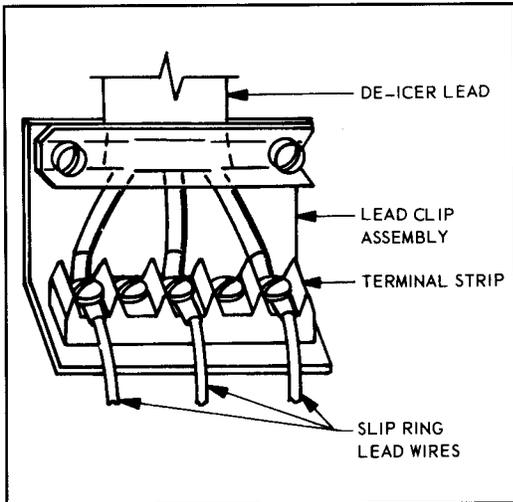
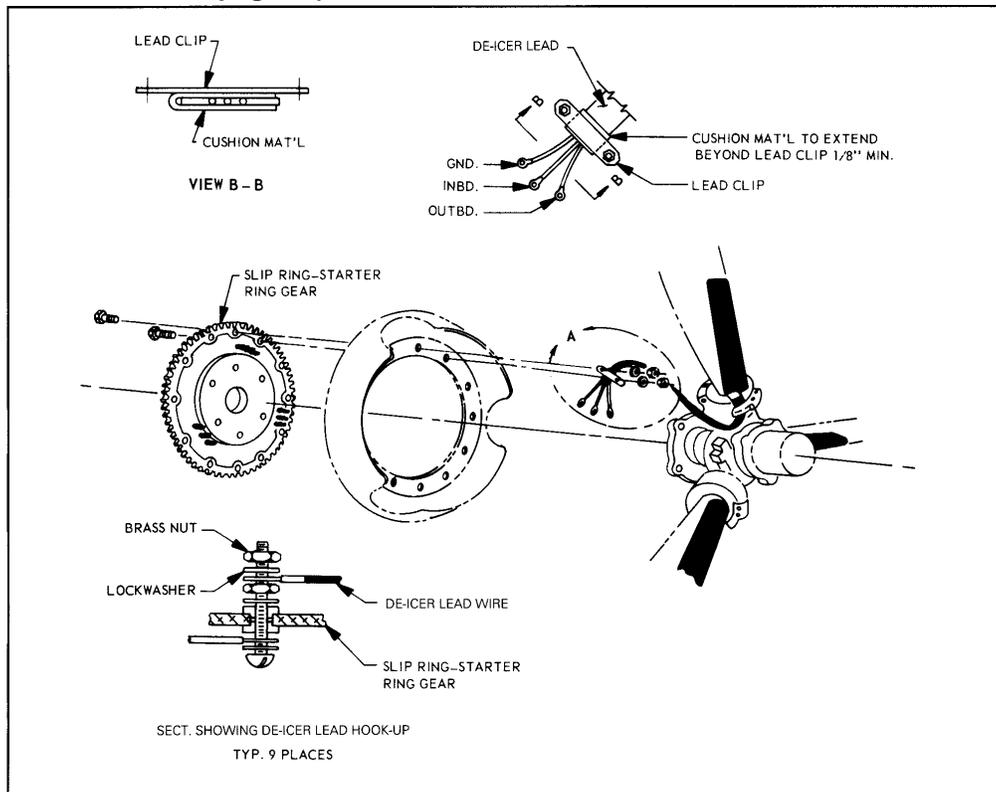
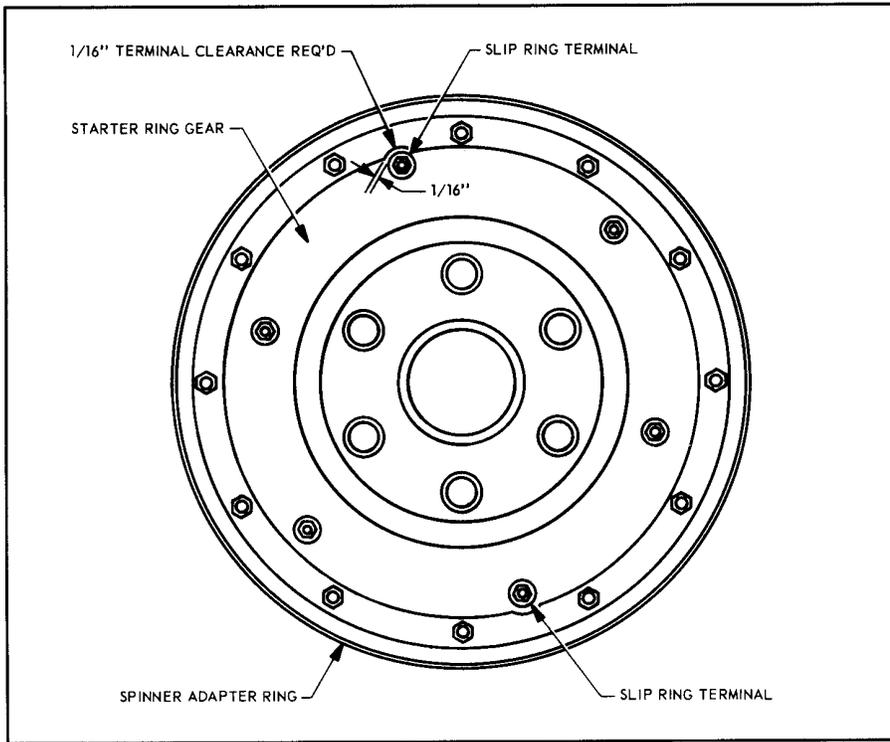

Figure 25 - Terminal Strip
Figure 32 - Typical Slip Ring/Starter Ring Gear Assembly Installation
Figure 33 - Positioning Spinner Adapter Ring
3. Slip Ring/Starter Ring Gear Assembly Installation (**Figure 32, page 28**)
- b. If slip ring is installed outside starter ring gear pulley, file spinner adapter ring as required for a minimum 1/16" clearance between spinner adapter ring and slip ring terminals, making sure filed clearance areas have smooth and flowing radii. (**Figure 33, page 29**)
Note: Be sure to connect matching leads or matching studs and leads: GND to GND, etc. Do not twist de-icer or wire harness leads more than 180° when aligning to terminals. Secure de-icer or wire harness leads with lead clips, and install cushions (**Figure 7, page 7 & Figure 32, this page**), when specified in AMM. Leave no slack in leads between terminals and clips.
- i. With a spinner adapter ring, de-icer or wire harness, leads connect to integral terminal studs (**Figure 32, this page & Figure 33, page 29**) or attached terminal strips/blocks on slip ring/starter ring gear assembly, using adapter ring attachment bolts (**Figures 25 & 26, page 24**).
- ii. If terminal strips, clips or other hardware are installed using same bolts that attach adapter ring to slip ring/starter ring gear assembly, make sure there is 2-3 thread engagement beyond nut. On aircraft with spinner bulkhead(s), a slip ring wire harness is installed on the slip ring/starter ring gear assembly terminal studs, connects to de-icer or wire harness leads, is routed across hub extension, and connects to terminal strips or studs on modified spinner bulkhead (**Figure 33, page 29**).